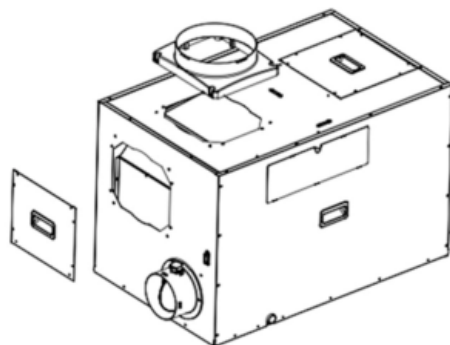

Figure 10
- Place the duct adaptor over the opening in the top of the main housing, using the Phillips head screw driver, reinstall the screws to retain the adaptor (See Figure 10). Make sure the adaptor is oriented correctly so there are NO gaps.